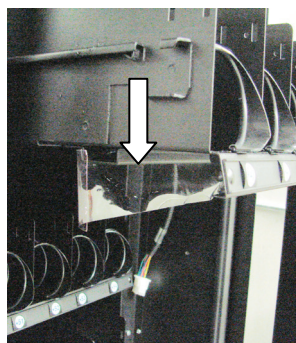

Figure 7 – Air Curtain
8. Remove air curtain from bottom side of tray four (Fig. 7)